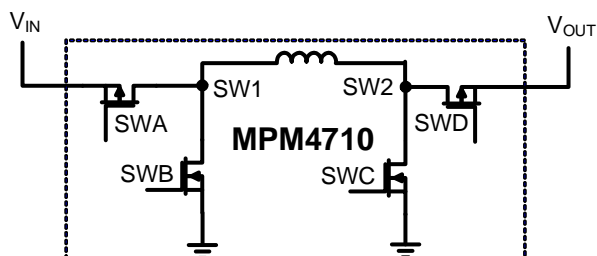

**Figure 1: Functional Block Diagram**
The MPM4710 is a high-efficiency, dual-mode, buck-boost converter that can regulate the output voltage ( $V_{OUT}$ ) above, equal to, or below the input voltage ( $V_{IN}$ ).  $V_{OUT}$  is sensed by the feedback (FB) pin via an external resistor divider connected between VOUT and PGND (see Figure 1 on page 10). The difference between the FB voltage ( $V_{FB}$ ) and the internal reference voltage ( $V_{REF}$ ) is amplified by the error amplifier (EA) to generate a buck control signal ( $V_{C\_BUCK}$ ). The buck comparator compares  $V_{C\_BUCK}$  to the internal current ramp signal (the sensed SWA's current with slope compensation) to generate a pulse-width modulation (PWM) signal for SWA and SWB.